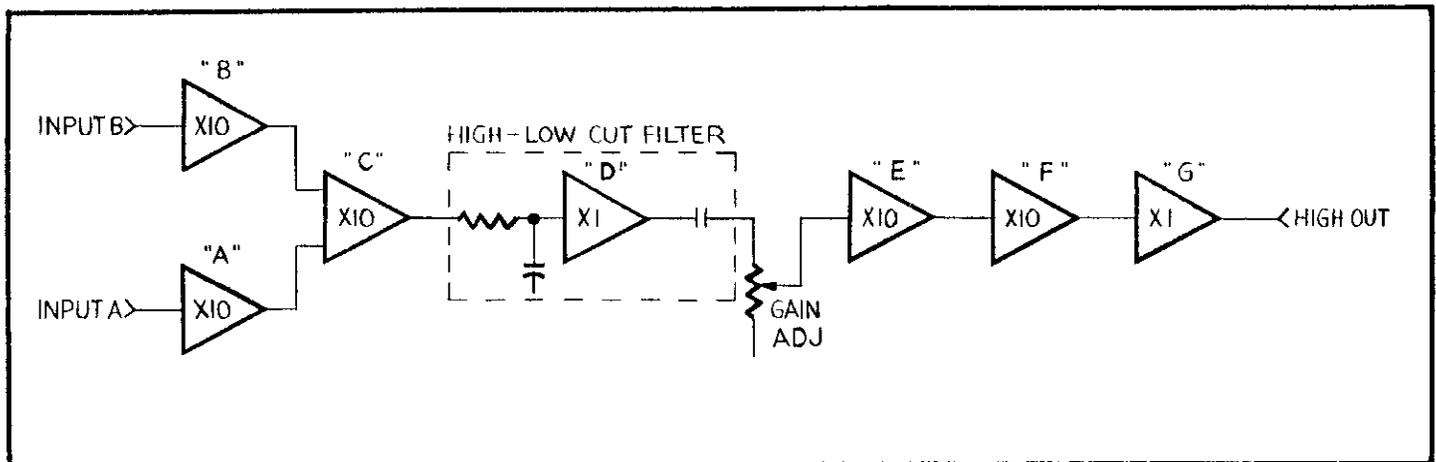

FIGURE 4. Overall Block Diagram.
a. General. The Model 103A Nanovolt Amplifier is a high gain voltage amplifier designed for use with single ended or differential inputs. The amplifier is essentially composed of two high impedance input amplifiers, a summing amplifier, a combination high-low cut filter section, two stages of X10 gain, and an output buffer amplifier as shown in Figure 4.